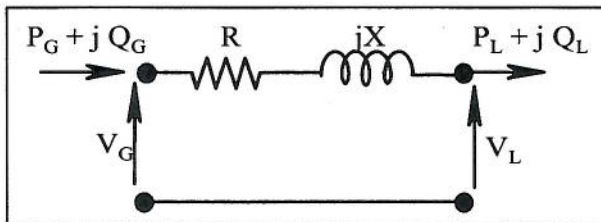

Figure 1: Simple two bus transmission system
- d) Consider the simple two bus system with a transmission line with resistance R and reactance X , as depicted in Figure 1. Indices G and L indicate Generation and Load respectively.